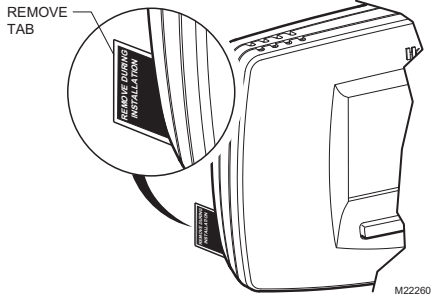

Fig. 23. Remove tab labeled REMOVE from thermostat back.
2. Locate and remove the tab labeled Remove. See Fig. 23.